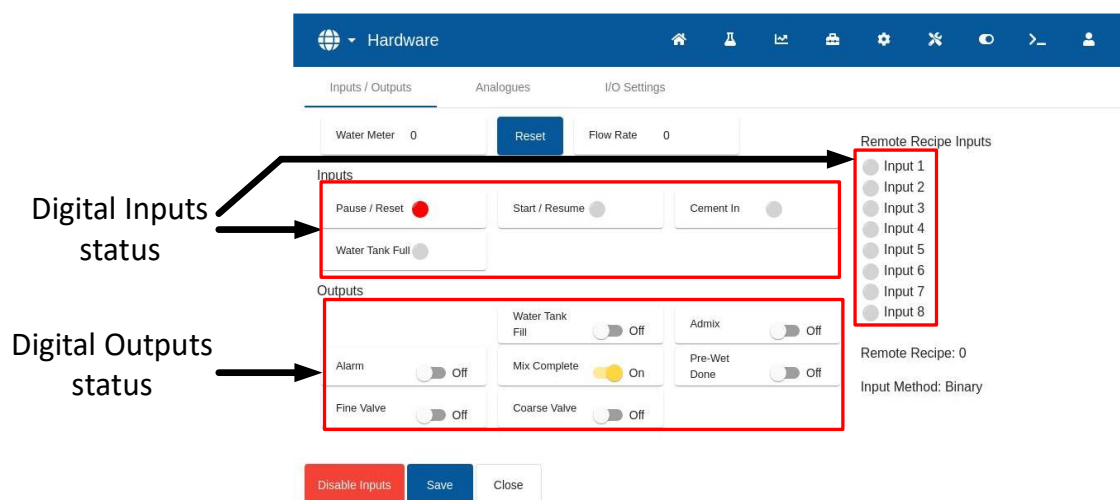

Figure 25: I/O test page
The digital inputs and outputs can be tested using the 'Inputs / Outputs' page of the 'Hardware' screen (see Figure 25).
1. Navigate to the 'Inputs / Outputs' page of the 'Hardware' screen (see Figure 25). Press the 'Reset' button if the 'Water Meter' value is not '0'.